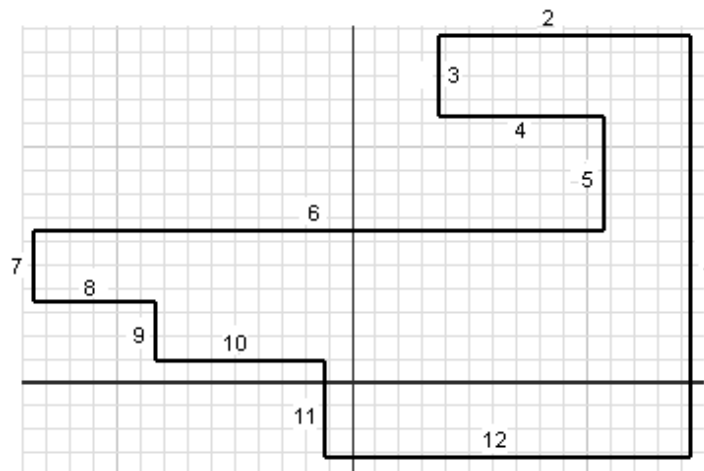

Figure 3-50 Numbering the lines in the sketch
- Start a new metric standard part file and draw the initial sketch using the **Line** tool, refer to Figure 3-50.
1. Draw the initial sketch, as shown in Figure 3-50, using the **Line** tool. The lines in the sketch are numbered for your reference.